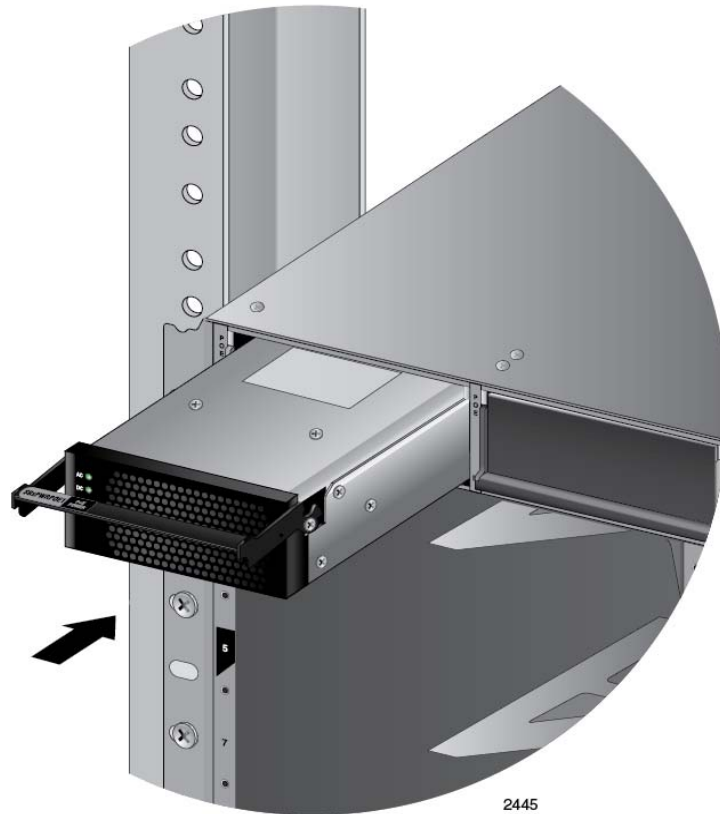

Figure 65. Inserting the AT-SBxPWRPOE1 Power Supply
5. Align and insert the AT-SBxPWRPOE1 Module into slot A or B. Figure 65 shows the power supply module aligned in slot A.